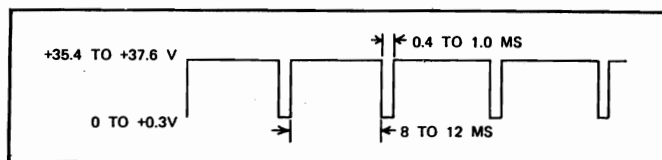

FIG. 13-60. WAVEFORM FD602 CARD. E-19647
4. Using an oscilloscope, check pin 34, using pin 7 as a return, for the waveform shown in Fig. 13-60.
14. Using an oscilloscope, observe pin 34, using pin 7 as a return for the waveform shown in Fig. 13-60.